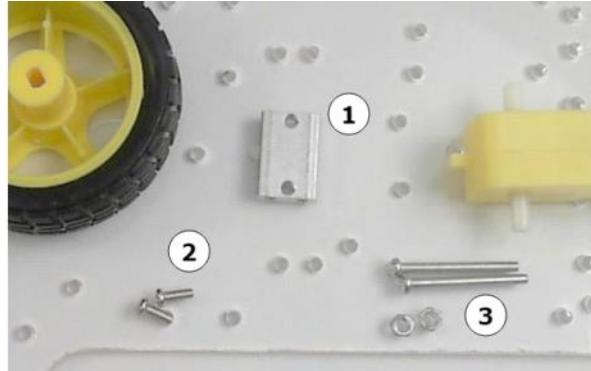

Figure. 6.21 – Metal type motor bracket
*Figure 6.21* shows how the metal motor bracket parts differ: